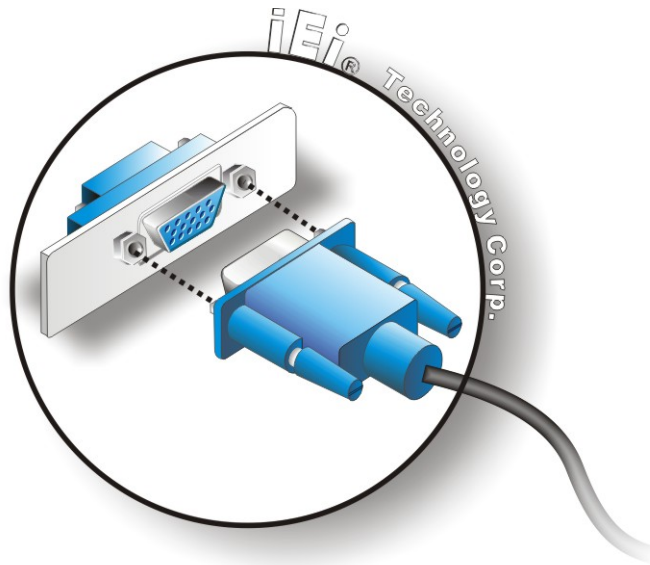

Figure 4-23: VGA Connector
- Step 3:** **Insert the VGA connector** Once the connectors are properly aligned with the insert the male connector from the VGA screen into the female connector on the IMB-Q354. See **Figure 4-23**.